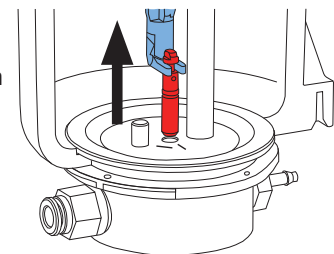

fig. 12
- Hold the dosing nozzle with the tool and pull upwards (fig. 12).